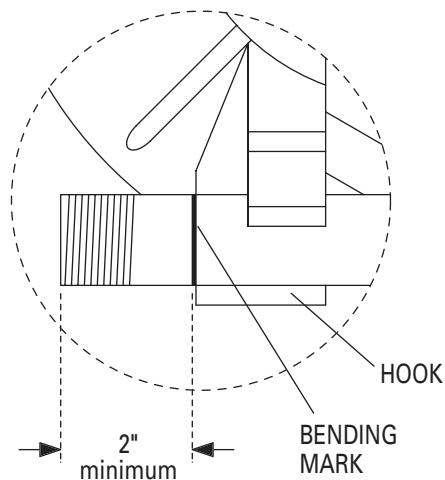

Figure 12
2. Mark the conduit to the desired length. Note that a 2" minimum dimension is required to eliminate flattening the end of the conduit. See Figure 12.
4. After marking the conduit, place it into the bender. The conduit should slide over the roller support and through the shoe groove and into the hook. The bending mark should be at the front (OUTSIDE) edge of the hook. See Figure 12.